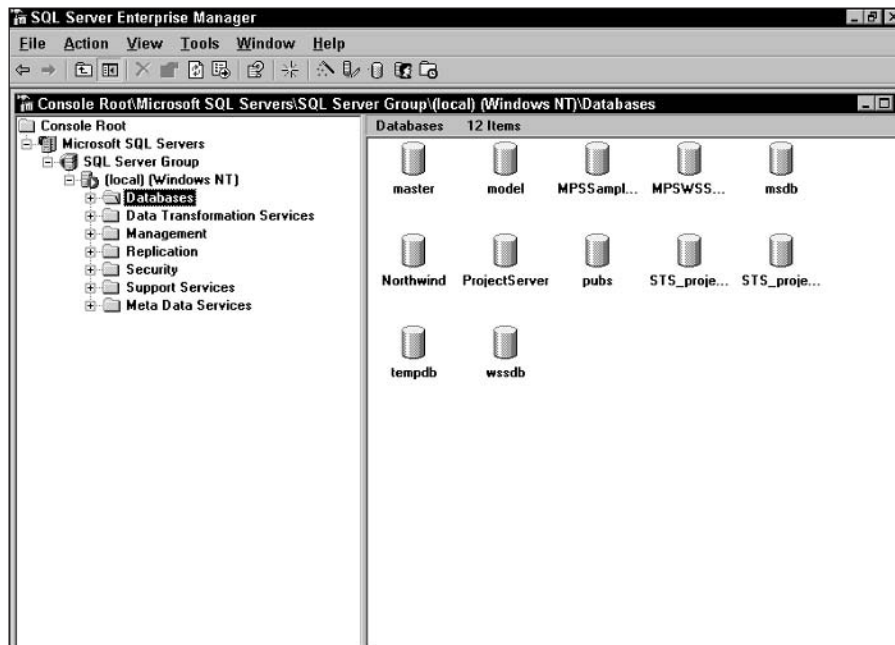

Figure 19-49: Use this window to create a new SQL database.
1. Choose Start→All Programs→Microsoft SQL Server→Enterprise Manager. You see the SQL Server Enterprise Manager window, as shown in Figure 19-49.